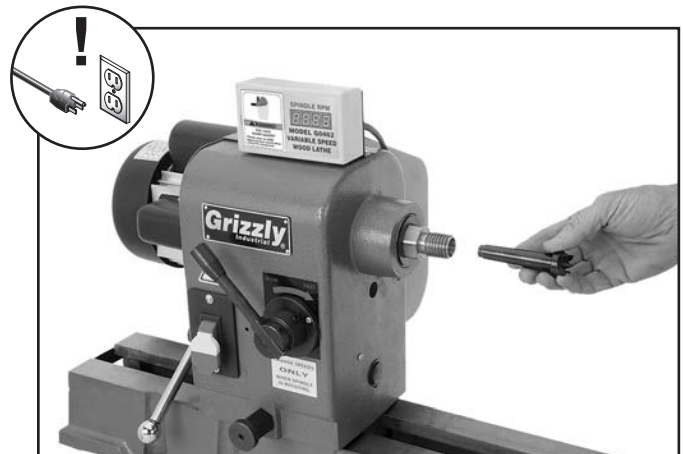

Figure 19. Example of installing center in headstock spindle.
3. Insert tapered end of center into spindle, and push it in with a quick, firm motion, as shown in **Figure 19**.